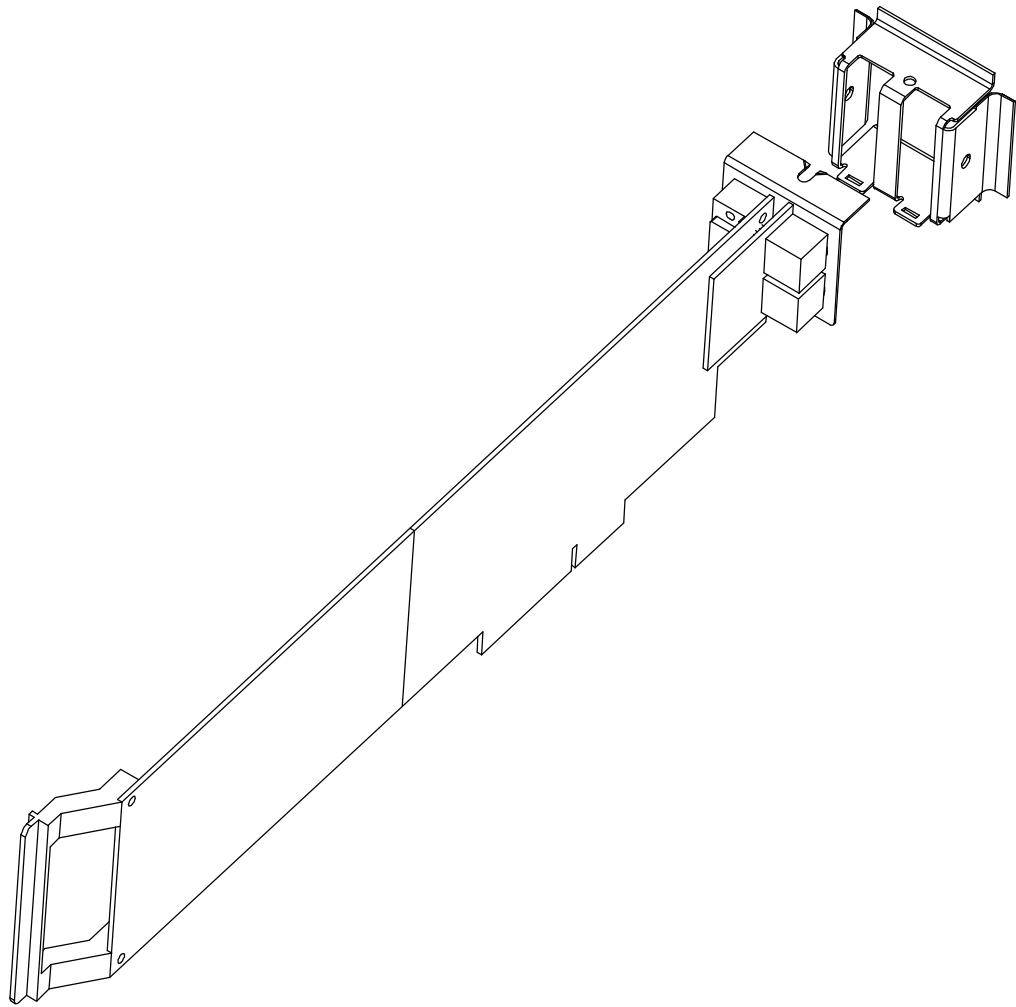
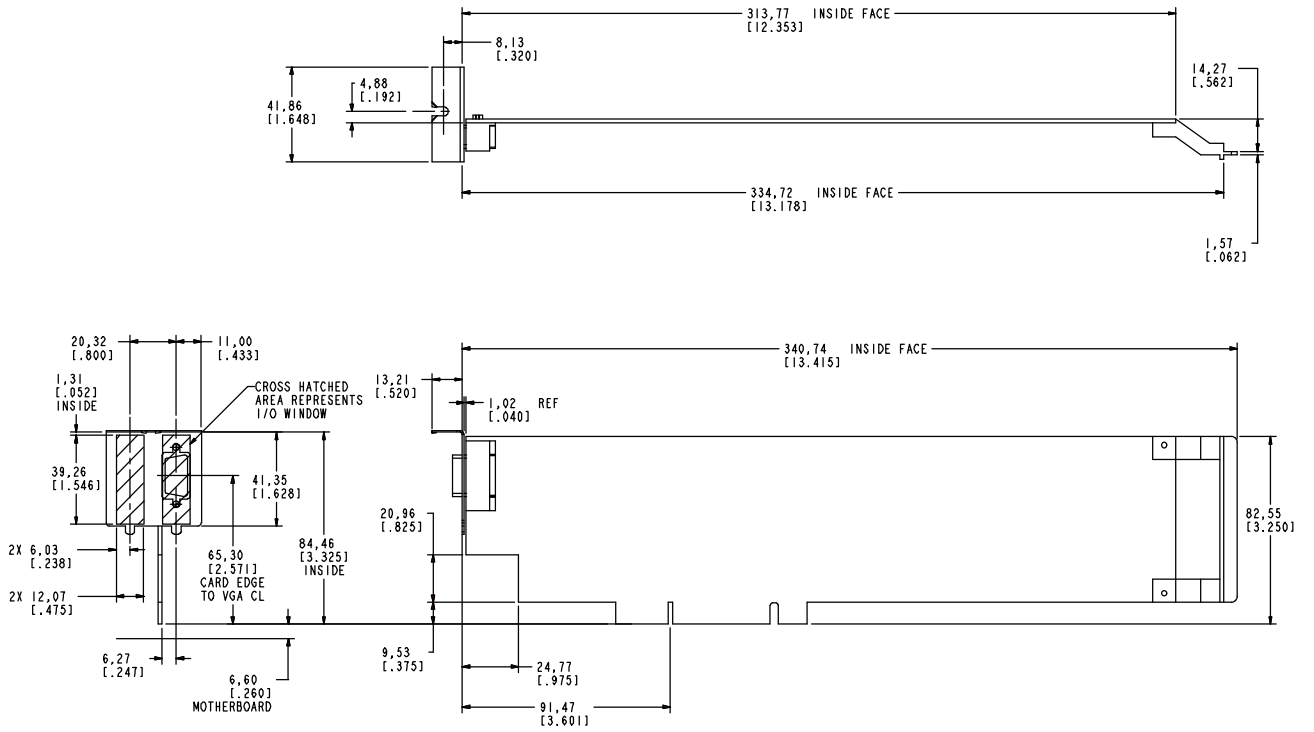
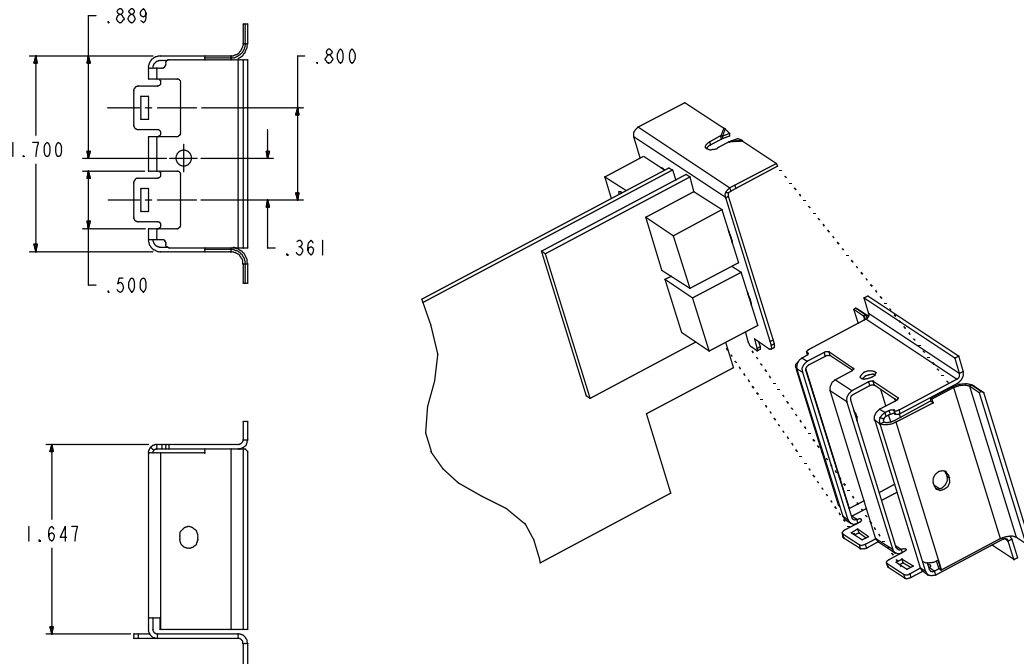
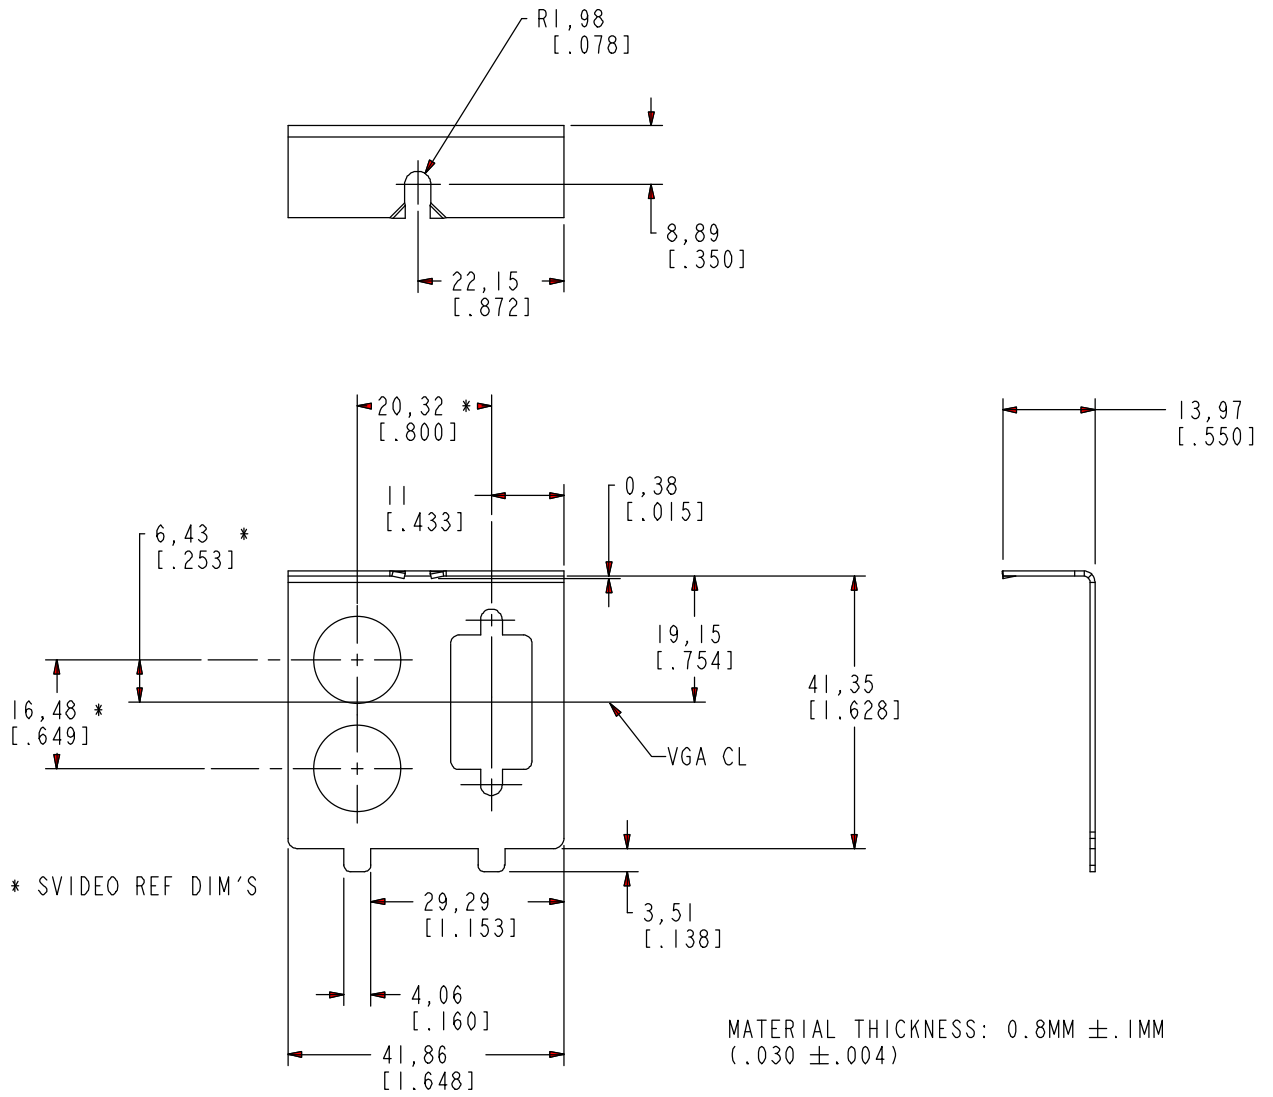

Figure X.1 NLX A.G.P.-Enabled Add-in Card Comprehensive view
Figure X.2: NLX A.G.P.-Enabled Add-in Card Assembly View
Figure X.3 NLX A.G.P.-Enabled Add-in Card Reference I/O Bracket and Chassis Back Panel Interaction
Figure X.4 NLX A.G.P-Enabled Add-in Card I/O Bracket Example Connector Layout
The NLX form factor A.G.P.-enabled card is intended for use either an NLX or ATX chassis with an appropriate back panel retaining bracket. The form factor for the NLX A.G.P.-enabled card is depicted in figure X.1. The mechanical aspects of the card are depicted in figure X.2.
The NLX form factor A.G.P.-enabled card has a newly defined retaining bracket to be used with an NLX system. The bracket and chassis interface are shown in figures X.3 and X.4. When this card is used in an ATX chassis, a bracket much like a standard PCI/ISA retaining bracket must be used. The currently defined ATX form factor A.G.P.-enabled add-in card is not compatible with the NLX specification.
I/O connector space on an NLX form factor A.G.P.-enabled card is limited due to the notch in the I/O end of the card as shown in figure X.2. Provisions have been made in the NLX A.G.P.-enabled card form factor to allow for I/O connectors on both the primary and secondary side of the A.G.P.-enabled card. The secondary side implementation must use the spacing defined in figure X.3 such that the connectors on the secondary side of the card extend to the back panel of the chassis. The secondary side implementation is defined so that the slot to slot connector spacing is consistent with current ATX back-panel add-in card implementations. This allows the A.G.P. NLX form factor card to be used in both ATX and NLX by use of an appropriate I/O back panel, even with the secondary side connectors in place. A retention bracket layout concept is shown in figure X.4. It should be noted that a half length NLX A.G.P. card is .100" shorter than the half length ATX A.G.P. card.
- Figure X.1 shows a comprehensive view of NLX A.G.P-Enabled add-in card, retention brackets, and chassis interface.
- Figure X.2 shows the assembly view of the I/O bracket and chassis interface for an NLX A.G.P-Enabled add-in card.
- Figure X.3 shows a reference chassis interface bracket for the rear end of an NLX A.G.P-Enabled add-in card.
- Figure X.4 shows a detailed view of an NLX A.G.P-Enabled add-in card I/O bracket with VGA connector location specified, and reference dimensions for potential adjacent connector placement.